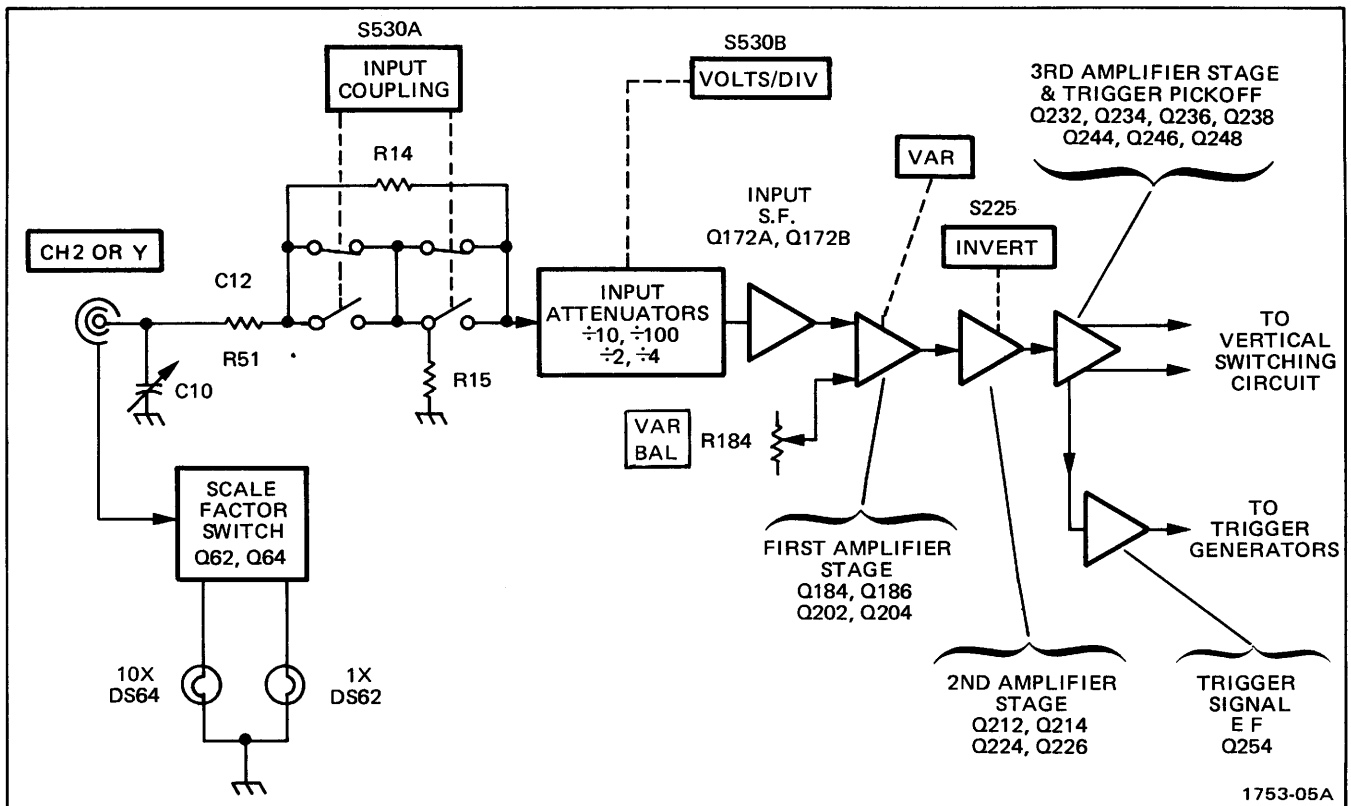

Fig. 3-2. Channel 2 Preamp Detailed Block Diagram.
**General.** The Channel 2 Preamp circuit is basically the same as the Channel 1 Preamp. Only the specific differences between the two circuits are described here. Portions of this circuit not described in the following description operate in the same manner as for the Channel 1 Preamp. Fig. 3-2 shows a detailed block diagram of the Channel 2 Preamp circuit. A schematic of this circuit is shown on diagram 2 at the rear of this manual.